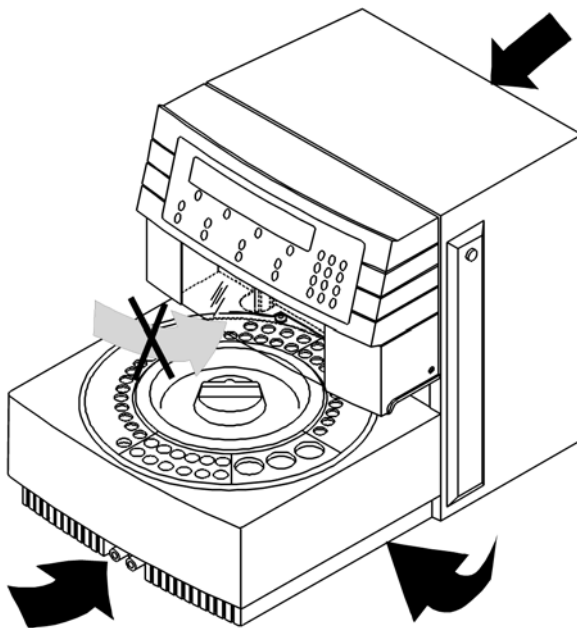

Figure 1 Agilent 410 Autosampler lifting instructions
- 1 Lift the Agilent 410 Autosampler as shown in Figure 1 on page 32 with both hands under the instrument or with one hand under the front and the other hand grasping the rear top of the Agilent 410 Autosampler.